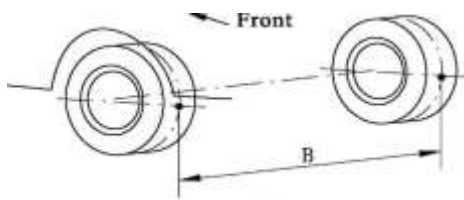

Figure 1
1)Straighten the front wheel of the vehicle, mark the front and rear center points of the tire, and measure the distance between the left and right tire marks" B". As shown in figure 1.